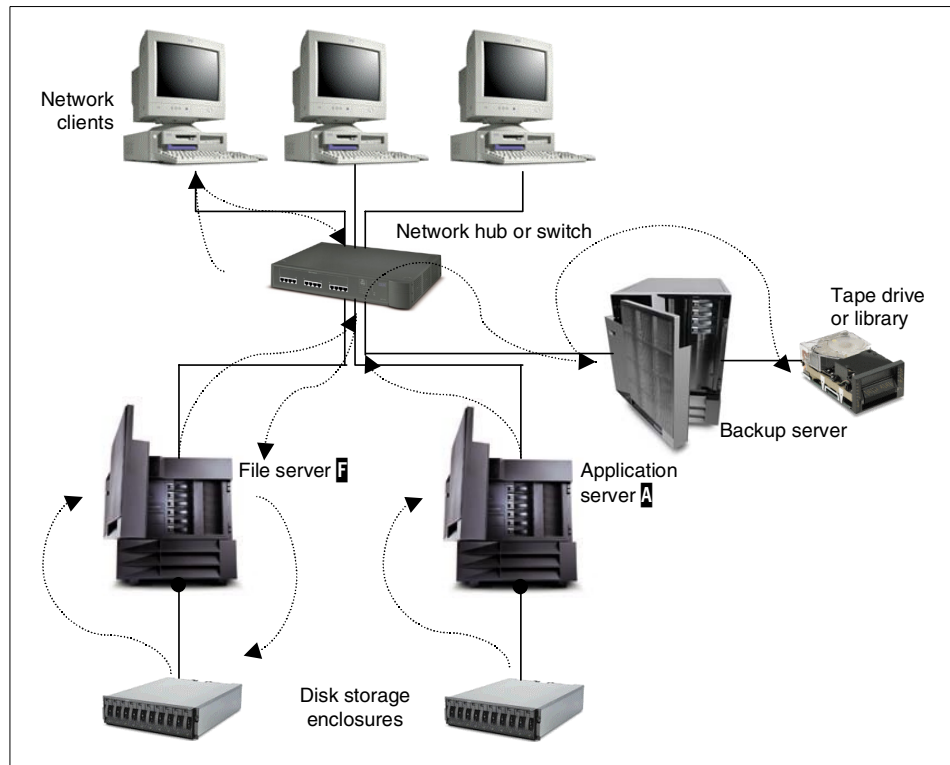

Figure 164. Typical disk and tape storage network resources
Many businesses have implemented standard Intel server-based systems to provide computing resources where they are required. Figure 164 shows a simple example of the typical network environment in which these servers often operate. The figure shows only three servers, but the network environment for a large enterprise may have hundreds or even thousands of servers distributed over a number of sites. The hard disks attached to all these servers can add up to a huge amount of storage space, terabytes (TB) or petabytes (PB) of data capacity, containing vital business information that is spread across the entire network.
In an environment such as that shown in Figure 164, the servers may, for example, host applications or provide file services and are connected directly to disk storage devices that hold the data used by the clients. That is, we have server-attached storage in which data access is dependent on the server. If a server fails, all disk storage devices connected to that system will be unavailable. We can term this a *data availability* problem. SAN techniques isolate the storage from the servers to prevent this.
If a client PC is running an application from the application server (A in Figure 164) that requires data from the storage connected to the file server (F), server F will fetch the required data and pass it to server A over the local area network, and, perhaps, subsequently to the client PC. Typically, servers A and F manage other server functions as well, such as user authentication, file and print, and additional application processing. In the event server F is busy with another function, server A must wait until it is available to service its request. This can create a *network performance* problem as the number of servers and clients grow. Having a separate network dedicated to storage traffic, as in a SAN, removes this traffic from the user network.